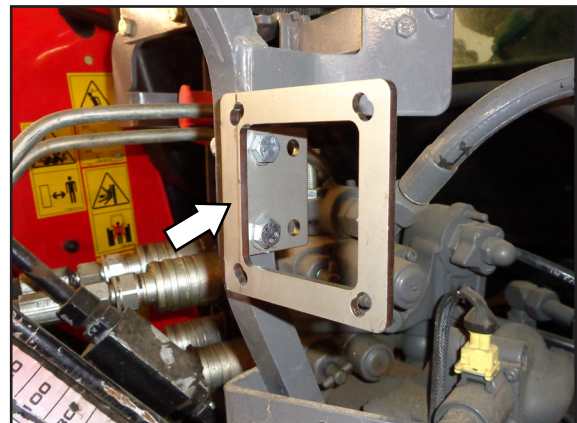

Fig. 27: Bracket for ISOBUS socket mounted
Take the *bracket for ISOBUS socket IBBC* and fix it to the frame. For fixing, use two hexagon head screws (M8) and two nuts (M8) (not included in the scope of delivery) see Fig. 27).
**NOTICE** The mounting position illustrated in Fig. 27 is one of a number of different mounting options. You can mount the bracket to the vehicle to suit your respective conditions.